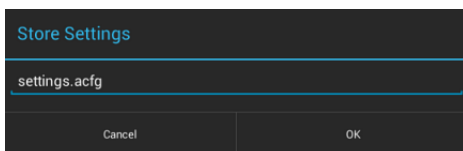

FIG. 89 Store Settings window
1. In the *Reset and Update* page, press **Store Settings** to open the *Store Settings* window (FIG. 89):